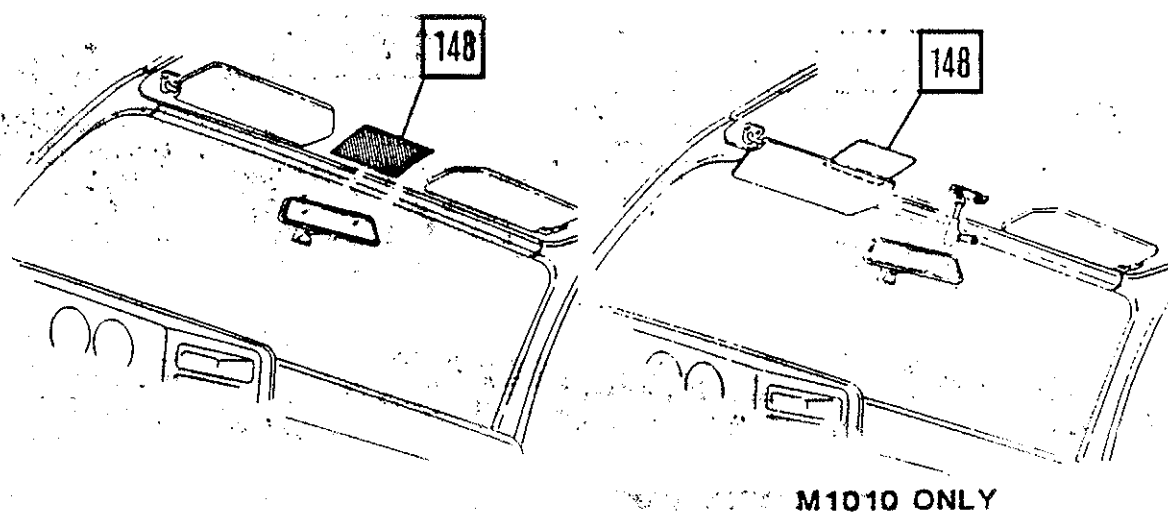

Figure 42.
- 235. Affix auxiliary heater operating instruction label to roof inside cab between sun visors (Figure 42.).